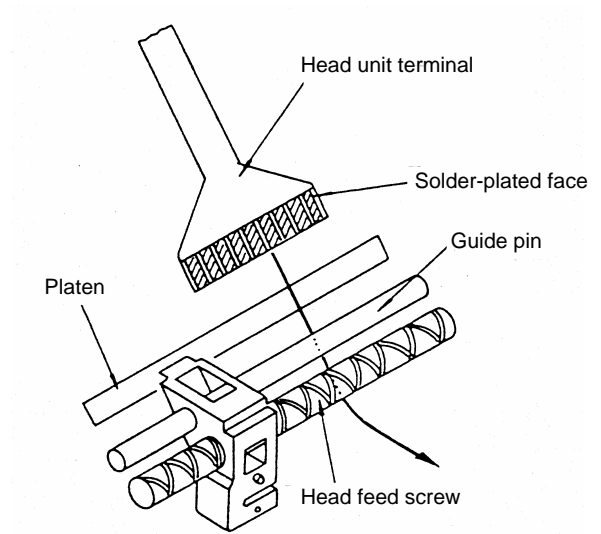

Figure 8-15 Inserting the Head Unit Terminal
- (1) Move the head carrier to a position that permits easy replacement (see Figure 8-15).
- (2) Insert the head unit terminal between the platen and the guide pin and head feeding screw with the soldered surface of the head unit terminal upwards (see Figure 8-15). Holding the solder-plated face upward, insert the head unit terminal so that it passes in front of the platen and under the guide pin and the head feed screw.